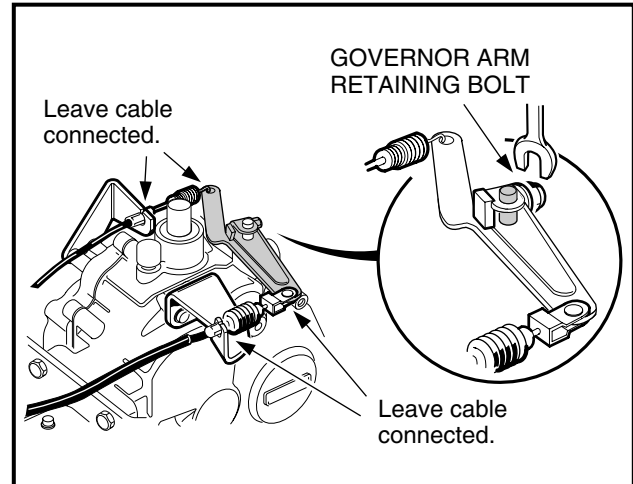

Figure 16b-37 Governor Arm
19. Loosen, but do not remove, the governor arm retaining bolt. Remove the governor arm from the shaft (**Figure 16b-37, Page 16b-17**).